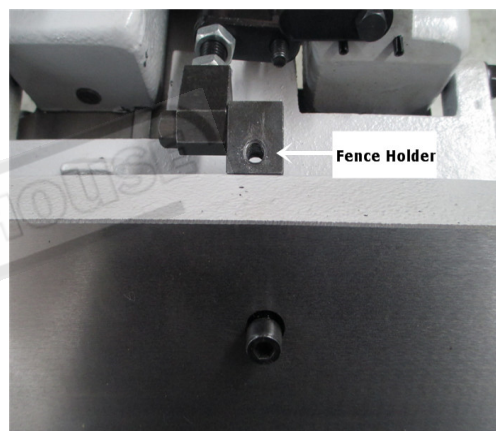

Figure 5
1. Loosen and take off the cap screw attached on the fence holder.(Fig. 5)
2. Line up the hole on the fence and thread on fence holder.(Fig. 5)